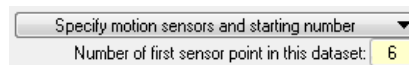

Figure 7. Setting the number of the first reference point.
1. The first option is to specify sensors starting with #1. The dataset is written to automatically add sensors if needed to obtain the specified number ②. If you are using 18 or fewer motion sensors in a simulation, then you should always use this option. If you are using multiple datasets from this library in a simulation, then you may use this option for one of the datasets; the others should use the second option to specify points with a different range of numbers.
2. The second option is provided in case the simulation run will include links to multiple datasets defining motion sensors. If this option is selected, then a data field is available (Figure 7) to specify the number of the first sensor in this dataset. For example, if you know another dataset defines sensors numbered one through five, then specify that the first number for this dataset is six.